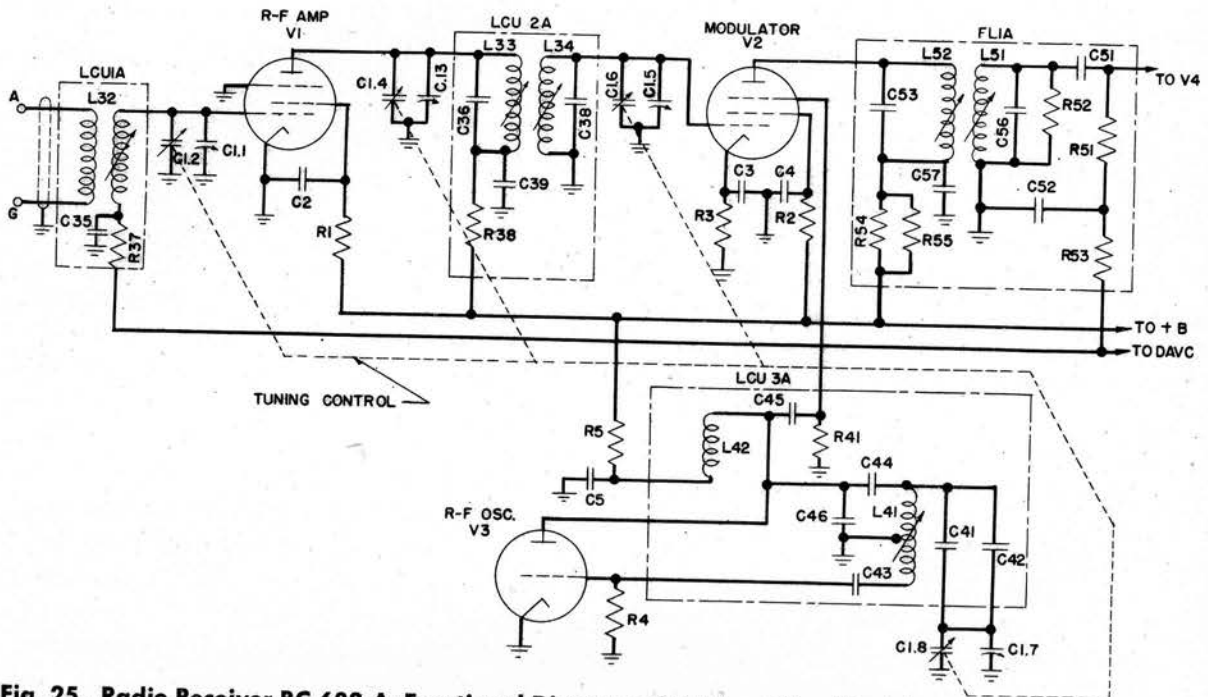

Fig. 25. Radio Receiver BC-683-A: Functional Diagram of R-f Amplifier, Modulator, and R-f Oscillator
*c. R-f Amplifier, Modulator, and R-f Oscillator.* Figure 25 is a functional diagram of the radio-frequency amplifier (V1), modulator (V2), and radio-frequency oscillator (V3) circuits.